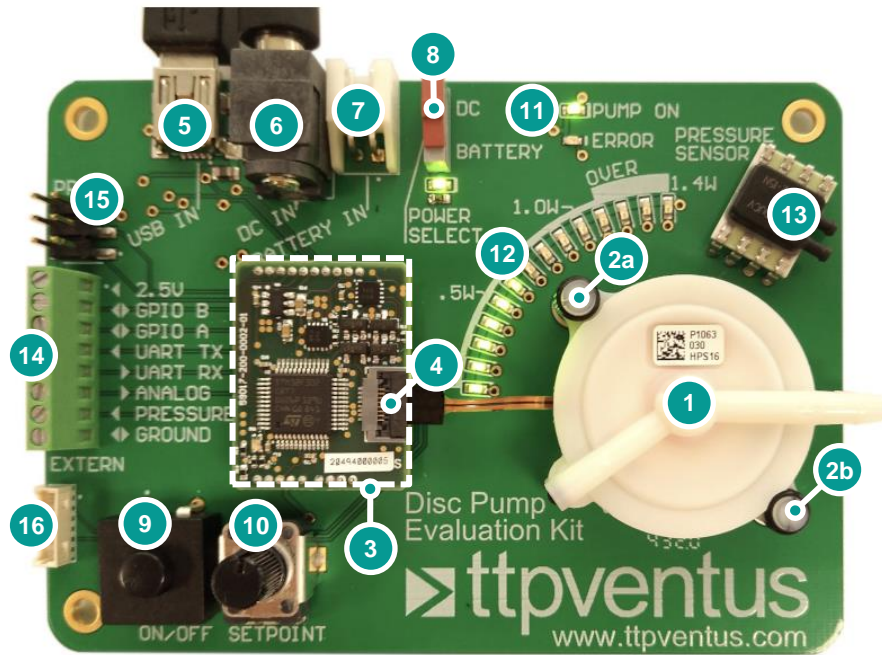

Figure 2: Evaluation Kit Motherboard
Disc Pump must be driven with an AC drive signal at a frequency optimised to suit each pump and its operating conditions. The postage-stamp sized drive PCB is responsible for generating the necessary drive signal. The pump and drive PCB are mounted onto a motherboard (Figure 2). The motherboard provides a range of convenient and easy-to-use connections, user interface elements and functionality detailed in Table 2.
- Turn pump on/off with the ON/OFF switch (Figure 2 – 8).
- Adjust pump power with the SETPOINT dial control (Figure 2 – 10).